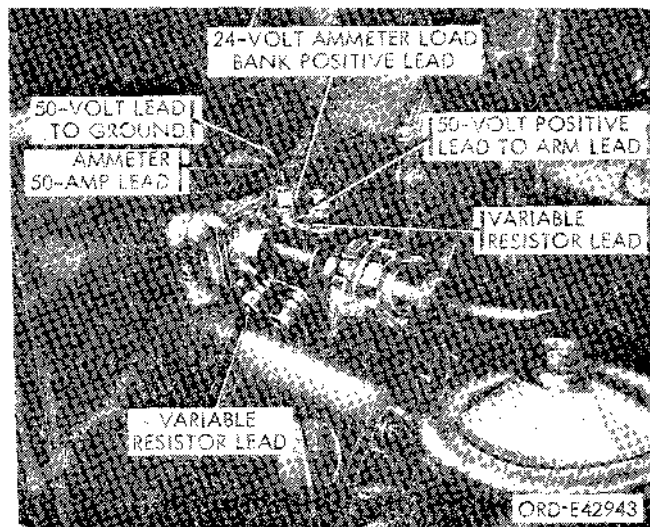

Figure 2-19. Generator output test hookup.
g. Connect the ammeter positive (+) lead to the load bank side of the ammeter, 24-VOLTS, 10-80A, and connect the other end to the armature lead of the generator as shown in figure 2-19.
h. Connect the ammeter negative (—) lead to the meter side (fig. 2-8), 50 AMP. and connect the other end to the vehicle generator ground or battery ground (fig. 2-19).
i. Connect the positive (+) lead of the voltmeter (fig. 2-8) to the positive (+) side of the meter connection and other end to the armature side of the generator (fig. 2-19).
m. With the meters connected as in figure 2-19, and the variable resistor and LOAD BANK SWITCH in the OFF position, start the engine and set it to run at a high idle (1000 to 1200 rpm).
regulator for defective wire (fig. 2-19). Repair as required.